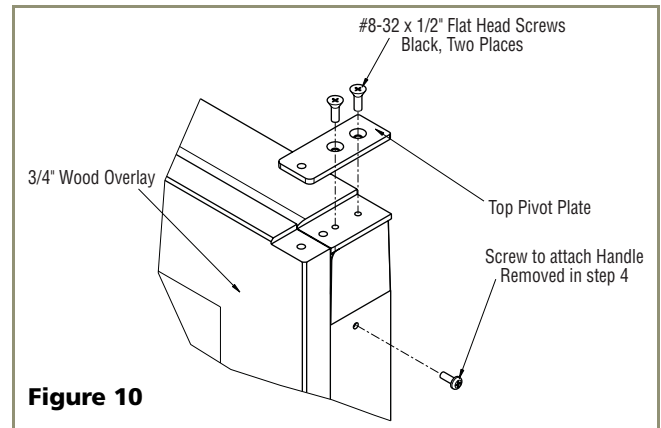

Figure 10
4. Attach Top Pivot Plate to door handle, on side where hinges will be. Use the two #8-32 x 1/2" Flat Head Phillips screws (Black) supplied with kit (see **Figure 10**).